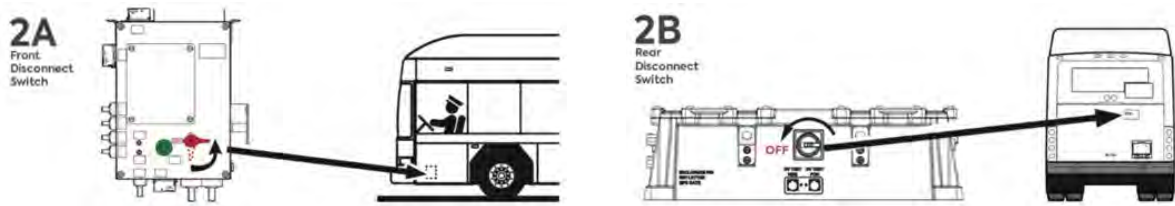

Fig. 2.3
1. Disable the High-Voltage system by either rotating the front disconnect switch 2A or the rear disconnect switch 2B as indicated in Fig. 2.3: